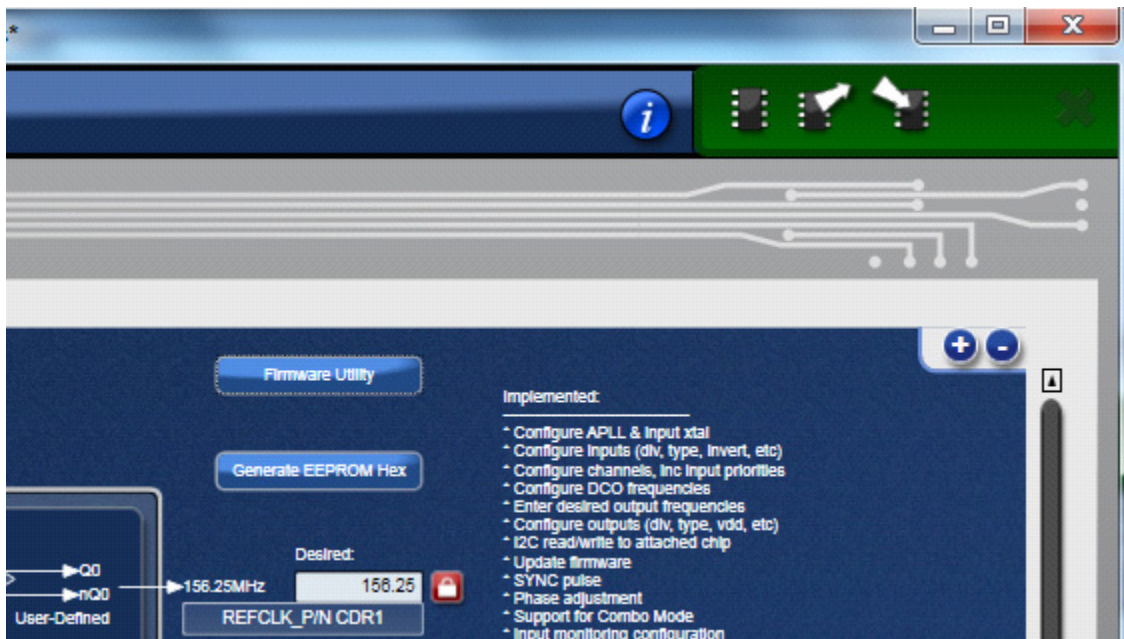

Figure 12. A Green Band Appears when a Valid Connection is Made
- Click on the chip symbol at the upper-right corner of the GUI window to initiate the connection. The connection is valid when a green band appears at the upper-right corner of the window, as shown in Figure 12.